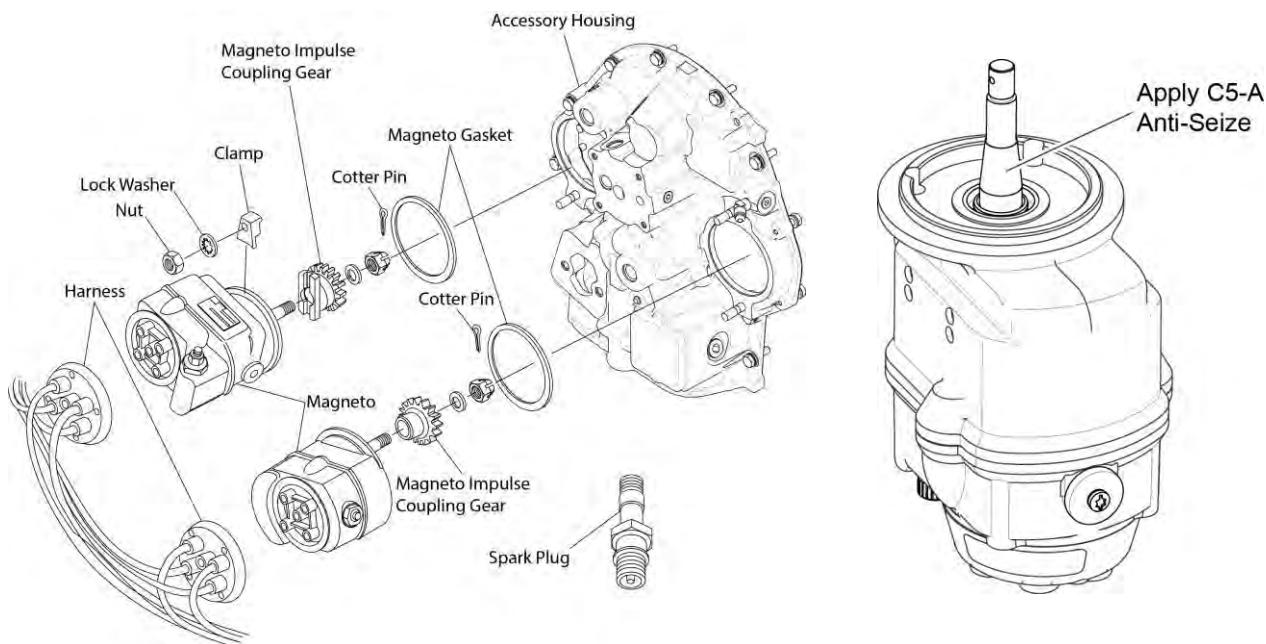

Figure 1
- (2) Install the magneto impulse coupling gear (Figure 1) on the magneto.
- (3) Remove excess anti-seize compound from the magneto driveshaft.
- (4) Torque the gear nut to 120 to 360 in.-lb. (14 to 41 Nm).
- (10) Apply Lubriko grease to the mating flange and install a new gasket on the mating flange of the magneto.
- (11) Remove the timing pin and install the magneto on the engine with the clamp, nuts, and new lock washers (Figure 1).
- (12) Torque the two nuts on the magneto clamps to 48 in.-lb. (5 Nm) in increments, alternating between the two nuts until both nuts are torqued to 15 to 18 ft.-lb. (20 to 24 Nm).
- (13) Connect the harness to the magneto.
- (14) Complete the “Magneto-to-Engine Timing” procedure in Chapter 74-30 in the **IO-360-N1A Engine Service Manual**.